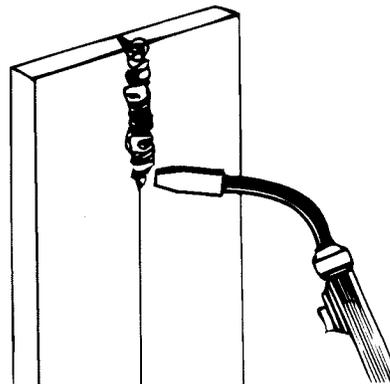

Figure 11. Vertical Position Weld
3. The VERTICAL POSITION (Figure 11) is the next most difficult position. Pulling the gun from top to bottom may be easier for many people, but in some instances it can be difficult to prevent the puddle from running downward. Pushing the gun from bottom to top may provide better puddle control and allow slower rates of travel speed to achieve deeper penetration. When vertical welding, angle B (see POSITION OF GUN TO THE WORK PIECE, above) is usually always kept at zero, but angle A will generally range from 45 to 60 degrees to provide better puddle control.